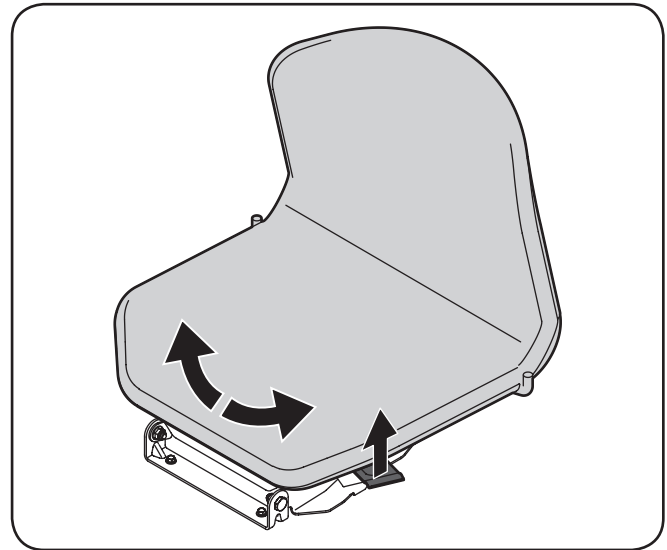

Figure 5-1
1. If the seat is facing forward, lift up on the seat lever on the left hand side of the seat and pivot the seat to the left. Release the seat lever. See Fig. 5-1.